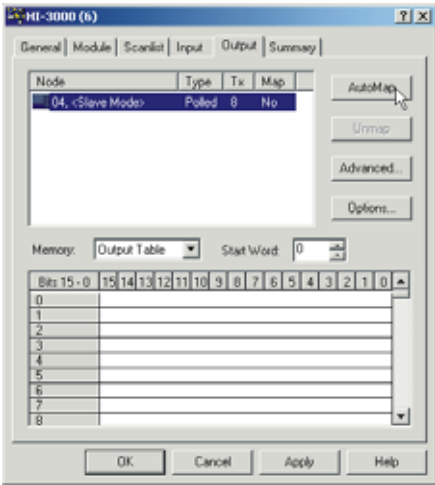

FIG. 124: OUTPUT PAGE/SELECTING AUTOMAP
- Step 9. Click on the Output Tab. The Output Page appears. (See Fig. 124)